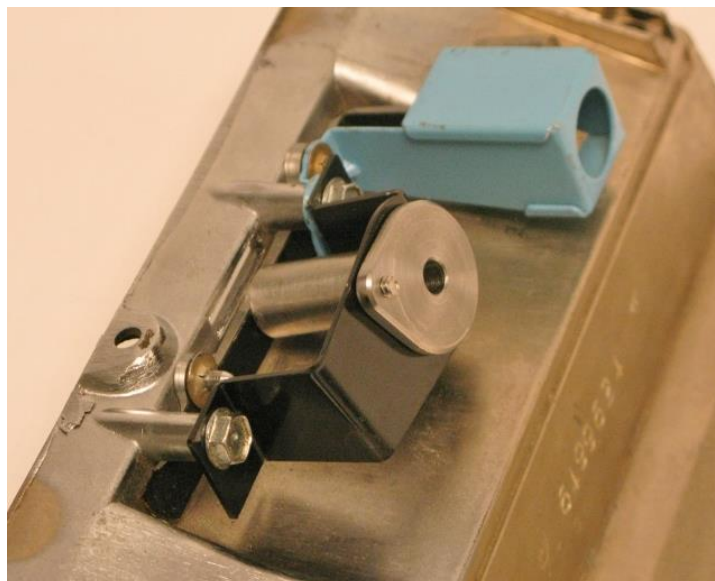

Figure 11 – Install Drill Guide
16. Place the drill guide into the wiper switch adapter and hold in place with the provided 6-32 x 1/2"L button head cap screw (Figure 11).